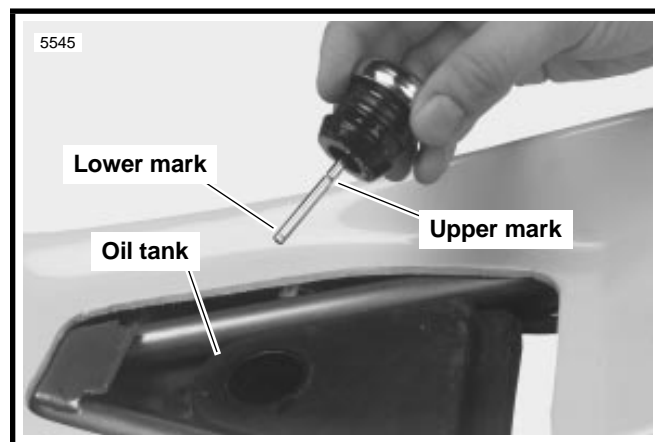

Figure 1-10. Checking Oil Tank Level
2. See Figure 1-10. Remove filler cap/dipstick from oil tank. Wipe dipstick clean.